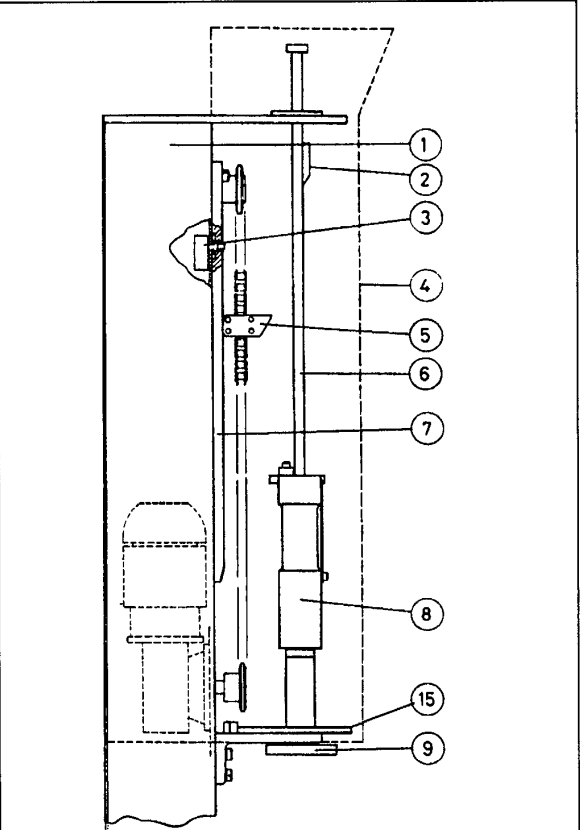

Figure 2 Rammer Assembly
### **3.1 Rammer assembly (Figure 2)**
- 3.4 Safety gates (Figure 2)
## 7 Maintenance (Figure 2)